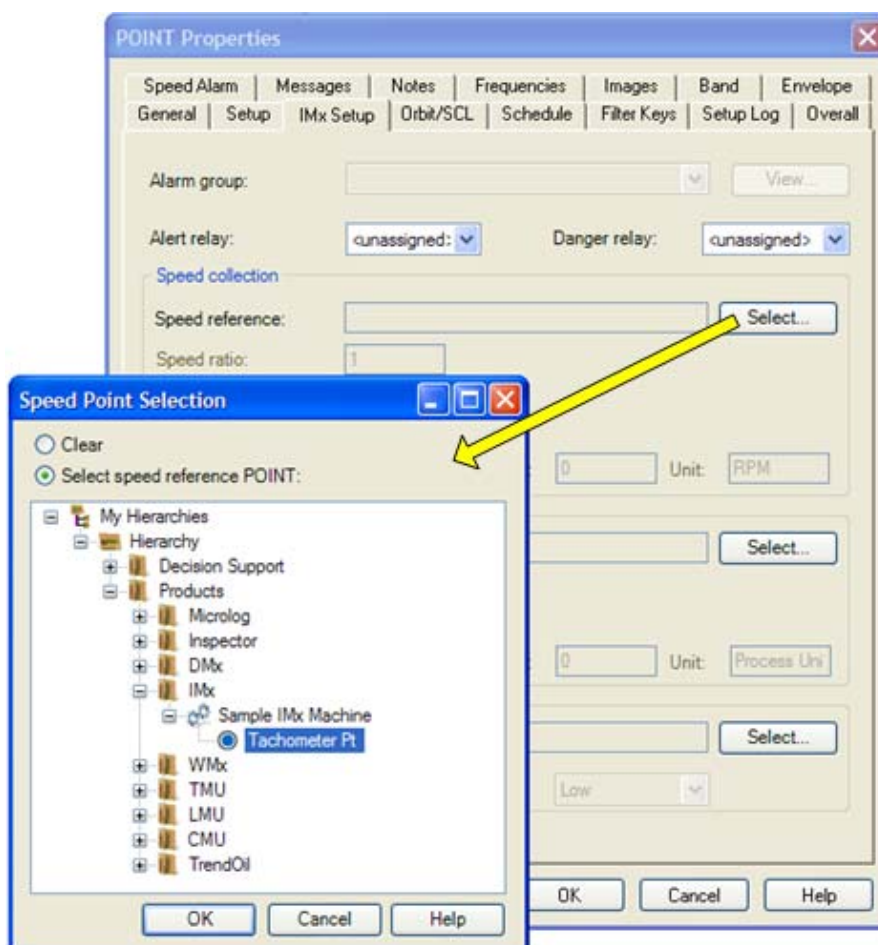

Figure 5. IMx Setup tab for SCL Point
- Ensure the correct speed reference is selected, as it is an essential parameter used in SCL points. [Figure 5]